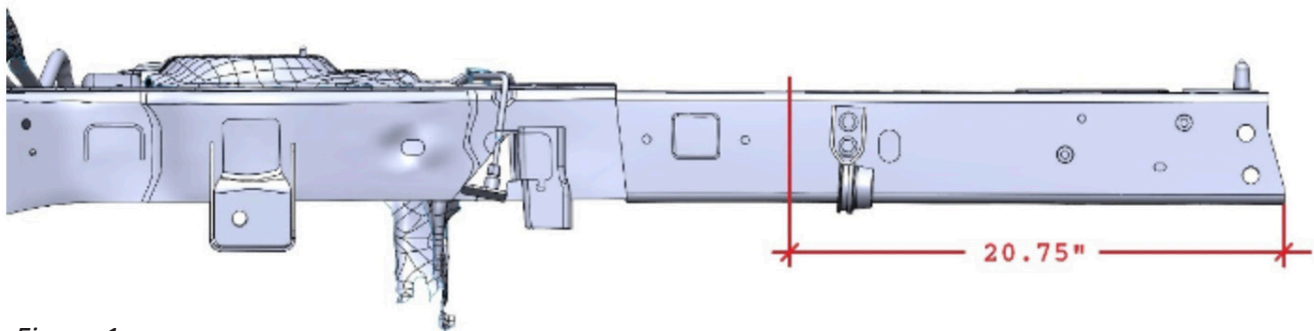

Figure 1
2. Measure 20.75 inches on the bottom of the frame and use a cutting tool to remove the rear section of the frame. Figure 1.